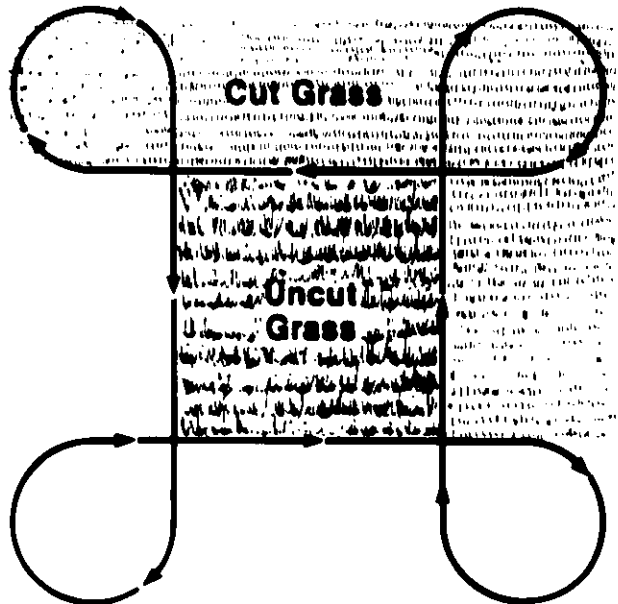

Figure 40
4. Follow the mowing procedure shown in Figure 40.